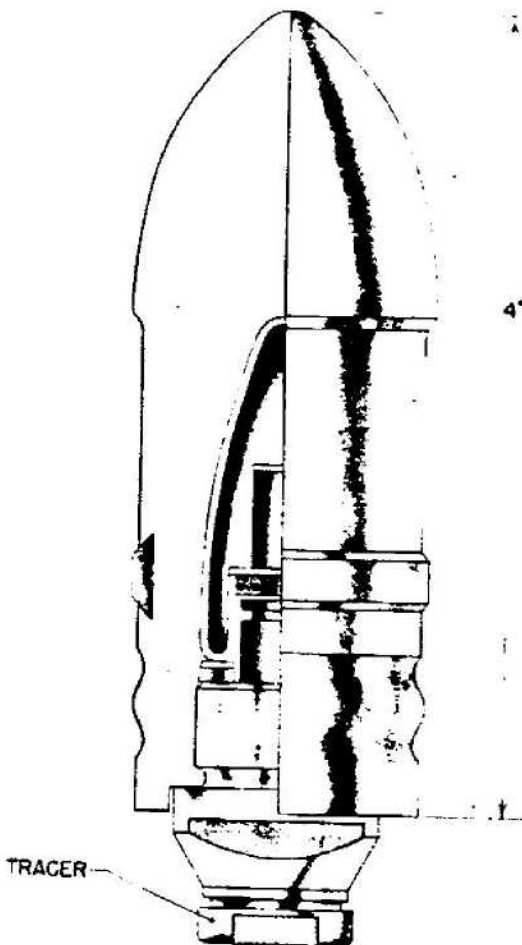

Figure 354—A. P. Projectile without Cap for A. A. Gun, 37-mm, 3.7-cm Pzgr. Patr. 18
**GERMAN NOMENCLATURE:** 3.7-cm Pzgr. Patr. 18 (Panzergranate Patronen 18). (See fig. 354.)